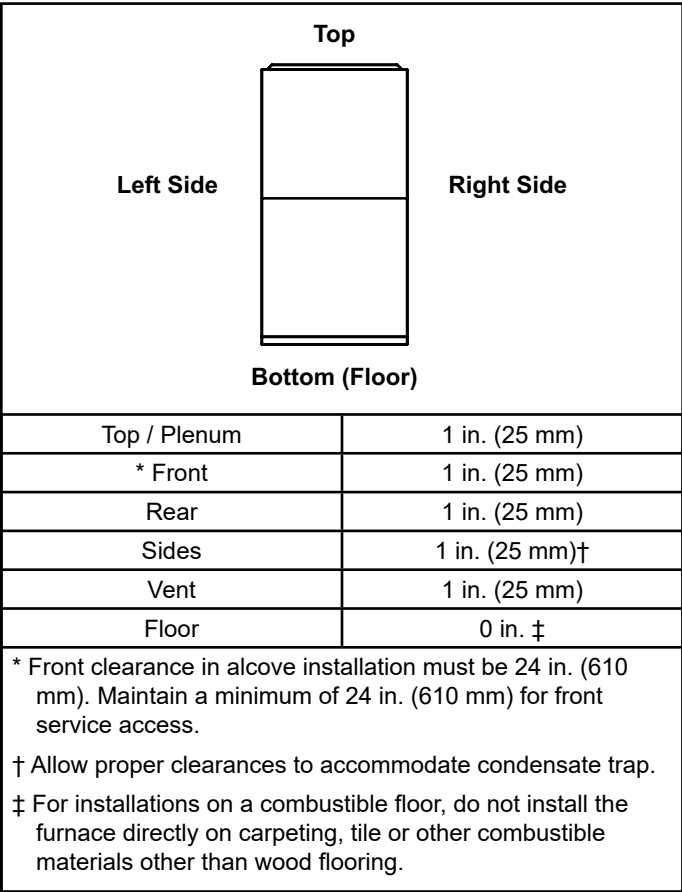
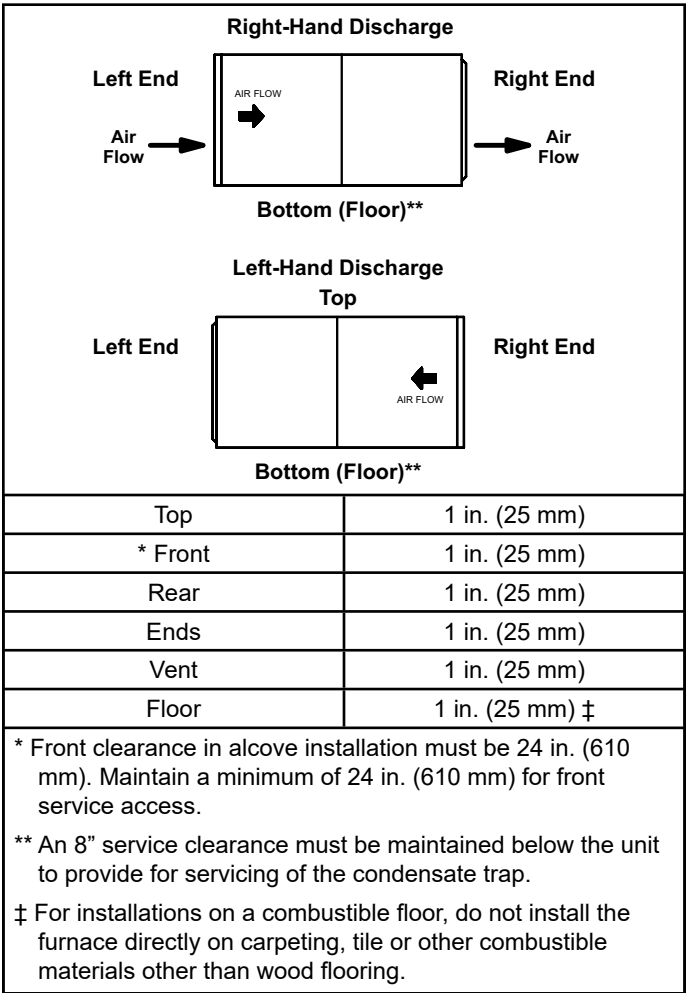

Figure 5. Installation Clearances Upflow Applications
Figure 11. Installation Clearances Horizontal Applications
This furnace is CSA International certified for installation clearances to combustible material as listed on the unit nameplate and in the table in Figure 5 or Figure 11. Accessibility and service clearances must take precedence over fire protection clearances.
The A97US2VXK gas furnace can be installed as shipped in the upflow position. Refer to Figure 5 for clearances. Select a location that allows for the required clearances that are listed on the unit nameplate. Also consider gas supply connections, electrical supply, vent connection, condensate trap and drain connections, and installation and service clearances [24 inches (610 mm) at unit front]. The unit must be level from side to side. The unit may be positioned from level to 1/2" toward the front. See Figure 6.
Refer to Figure 11 for clearances in horizontal applications.
- 13. Select location for unit keeping in mind service and other necessary clearances. See Figure 11.